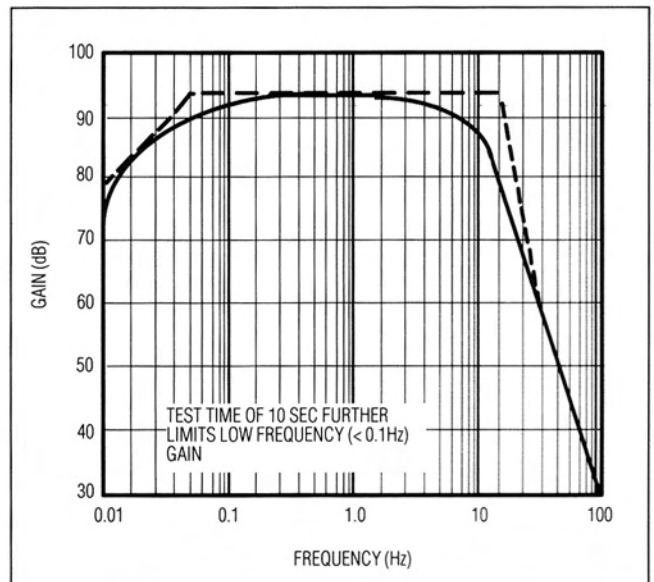

Figure 6. $0.1Hz$ to $10Hz$ V_{p-p} Noise Tester Frequency Response
3. As shown in Figure 6, the $0.1Hz$ corner is defined by only one zero. A maximum test time of 10sec acts as an additional zero to eliminate noise contributions from the frequency band below $0.1Hz$.